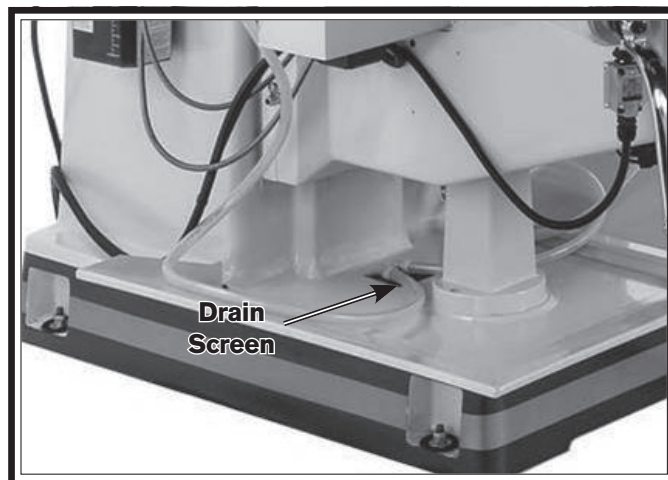

Figure 42. Location of the coolant drain screen.
1. Clean away debris and grime from coolant drain screen on base of mill (see **Figure 42**), and verify that screen is slightly submerged.